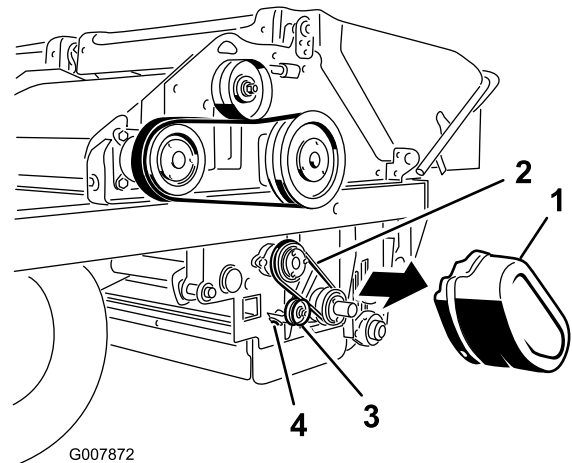

Figure 62
1. Remove the belt cover (Figure 62)
2. Loosen the nut on the idler pulley (Figure 62).
3. Push the idler pulley into the belt and tighten the idler pulley nut (Figure 62).